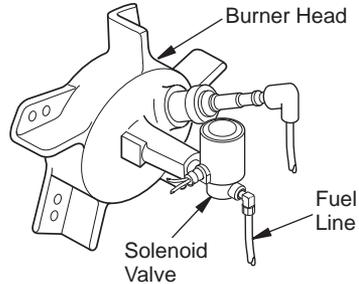

Figure 14 - Fuel Line at Solenoid Valve
3. Use 7/16" wrench and tighten fuel lines at solenoid valve, pump and fuel filter canister (if equipped) (see Figures 14 and 15).